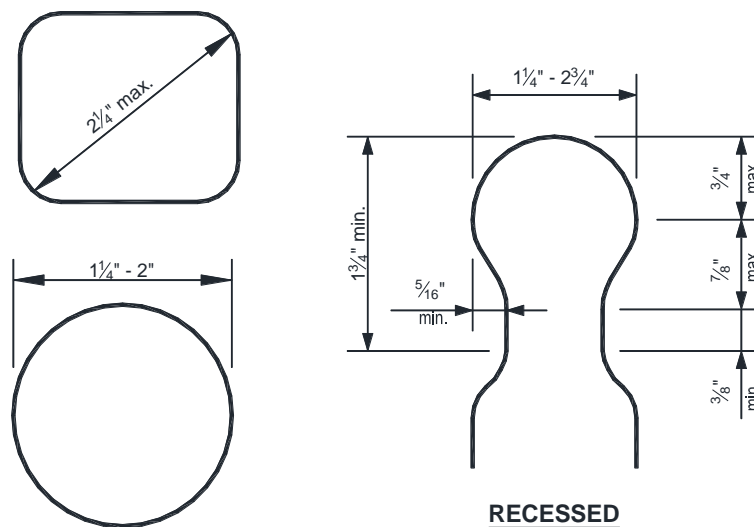

FIGURE 45: HANDRAIL GRASPABILITY
- Handrails shall have a smooth surface with no sharp corners and shall be graspable. Recessed sections may be shaped from a 2x6 or five-quarter board as shown in FIGURE 45.